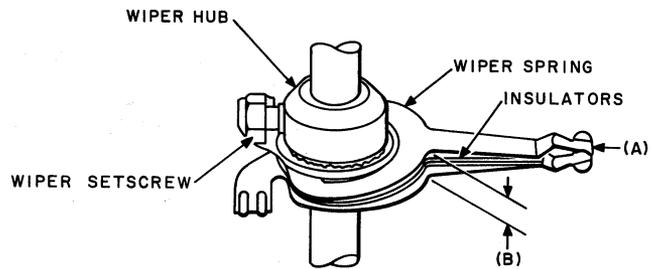

Fig. 1 — Bank Wiper
2.06 Wiper Spring Forming: Fig. 1(B) — The wiper springs shall be approximately 1/8 inch apart where the straight portion of the spring forms into the hub end. From that point, the two springs shall converge in approximately straight lines to the free end of the insulator.